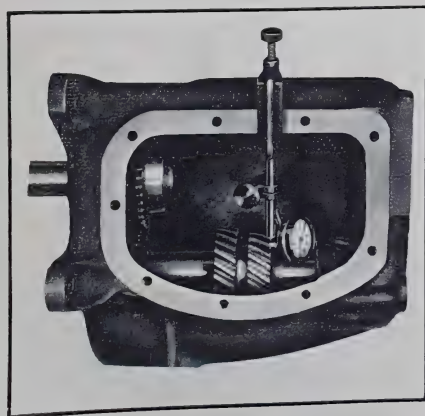

Figure 4-143—Checking Countergear End Play
7. Attach a dial indicator as shown in Figure 4-143, and check the end play of the countergear. End play must not be more than .025".